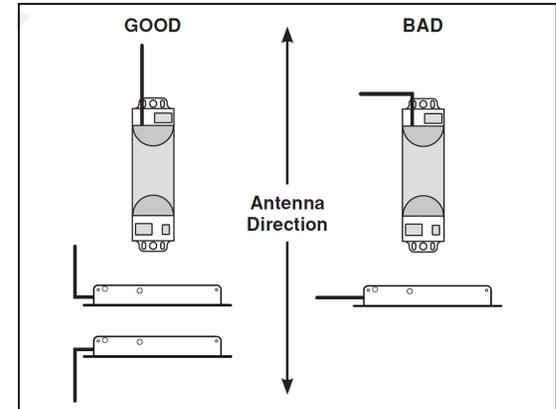

Figure 1 - Antenna Orientation
Option A. For standard installation: place the light controller in the desired location and secure it using (4) #8 screws. Prior to permanently mounting it, make sure the antenna points directly upward or downward and is free of any metal objects within 12 in. of the antenna (Figure 1).
Note: When installing the DIM10-250-11 into an enclosure, consideration of antenna position and interference is required to provide the optimum wireless signal strength. (Figure 1)